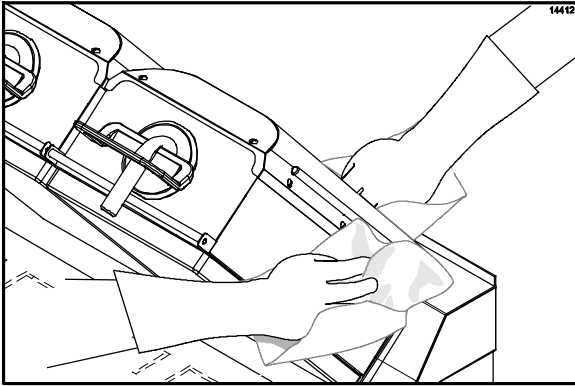

Figure 100
31. Rinse the front, side, and back of the platen surfaces with a clean, sanitizer-soaked grill cloth, starting from the right platen to the left platen. (See Figure 100.)